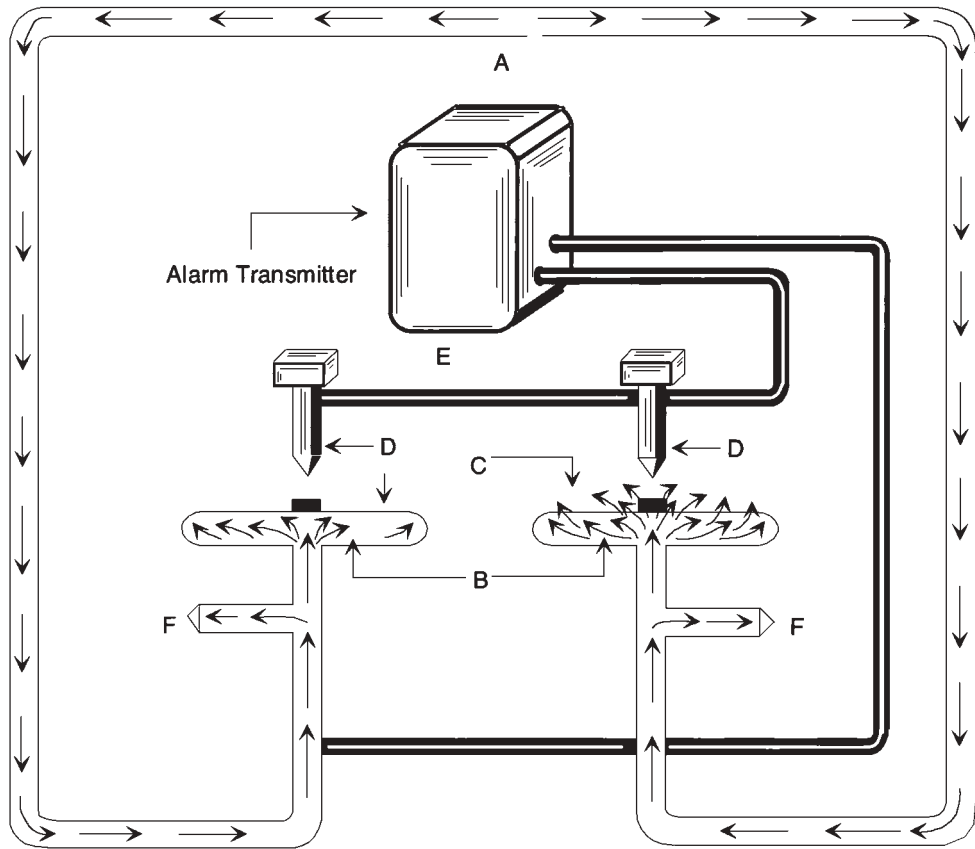

Figure 5.19 Pneumatic rate-of-rise tubing.
Pneumatic rate-of-rise tubing: A line-type sensor of small-diameter tubing, usually copper, which is installed on the ceiling or high on the walls throughout the protected area. The tubing is terminated in a detector unit containing diaphragms and associated contacts set to actuate at a predetermined pressure. The system is sealed, except for calibrated vents that compensate for normal changes in ambient temperature (Fig. 5.19).
In referring to Fig. 5.19, note that the copper tubing (A) is fastened to ceilings or walls in a continuous loop and terminates at both ends in chambers (B)